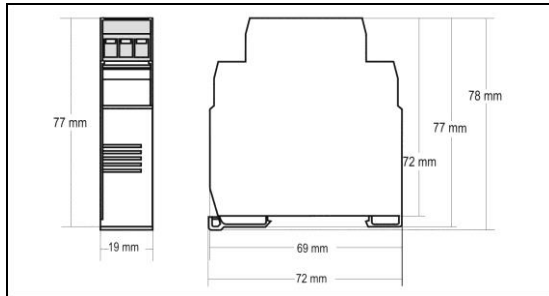

Figure 05 – Transmitter dimensions
The transmitter is intended for DIN rail mounting. Its drawing is presented in Figure 05.
**Housing:** ABS plastic. Dimensions: Refer to Figure 05.